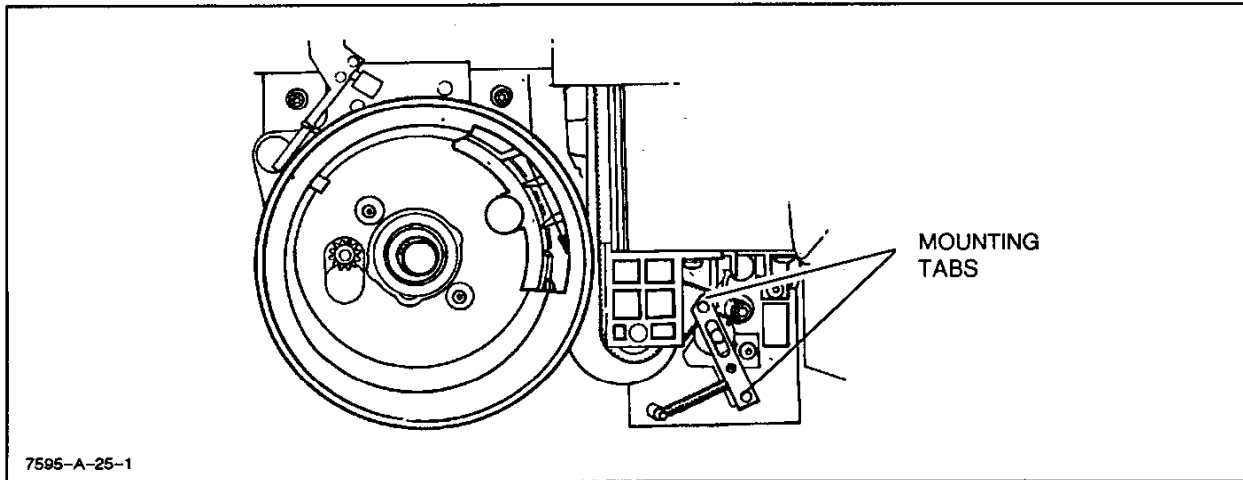

Figure 6-19. Motor Belt Tensioner Assembly Removal
- e. Remove the motor belt tensioner assembly by first pressing the tabs in with a small screwdriver and then lifting the assembly off. See Figure 6-19.